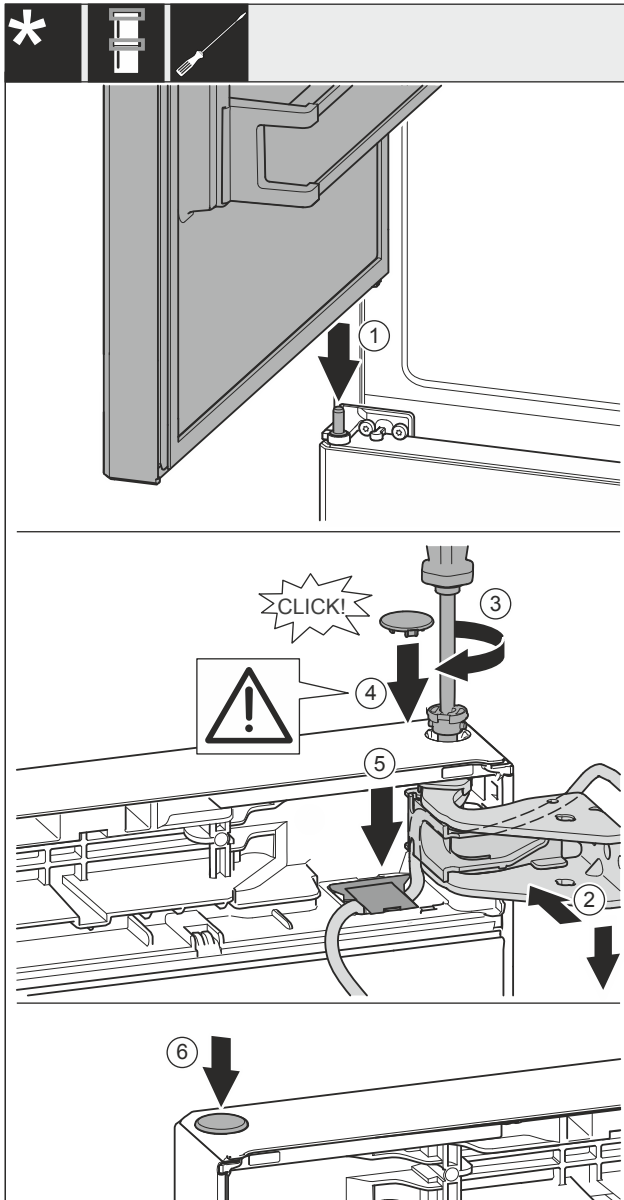

Fig. 38
- ▶ Place the top door on the centre bearing bolt Fig. 38 (1).
- ▶ Align the top door with the opening in the swap bearing block Fig. 38 (2).
- ▶ Insert the bolt Fig. 38 (3) and use screwdriver to tighten it.
- ▶ Insert the cover Fig. 38 (4).
- ▶ Check that the cover Fig. 38 (4) is resting on the door.
- ▶ Insert the cover Fig. 38 (5) and push down until it engages.
- ▶ Insert the cover Fig. 38 (6).